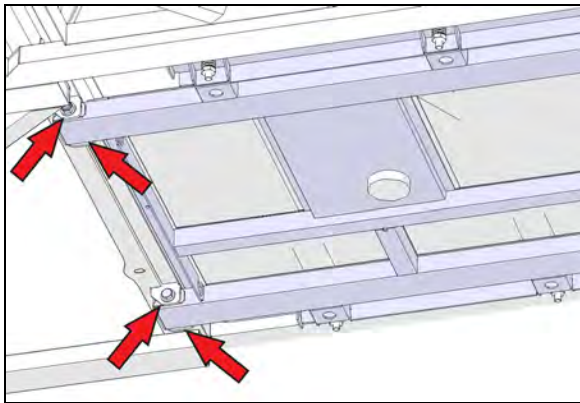

FIGURE 21: SPECIFIC MOUNTING POINTS TO BE INSPECTED
- Carefully inspect fuel cradle mounting bolts, 2 bolts (Figure 21).